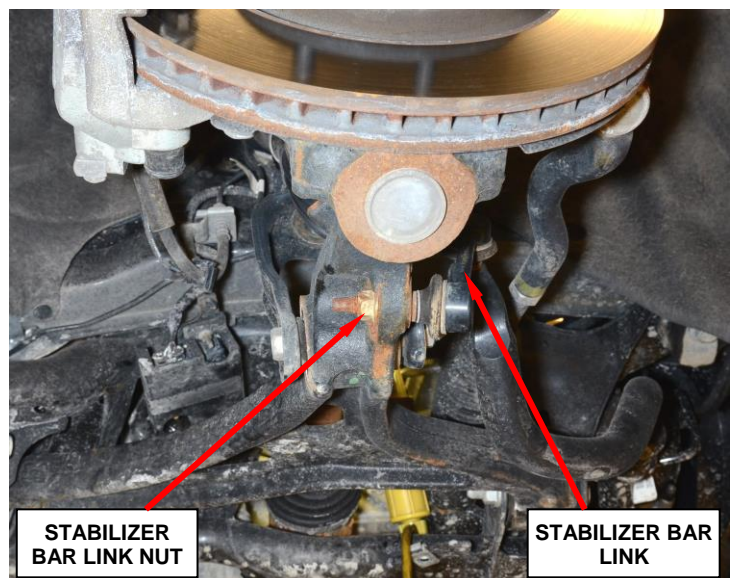

Figure 3 – Stabilizer Bar Link Nut
8. Remove and save the right front stabilizer bar link-to-lower control arm nut (Figure 3).